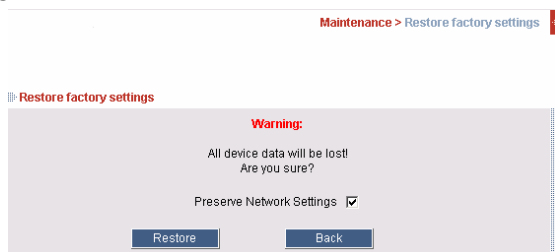

Figure 13 Restore factory settings
1. From the menu select **Restore Factory Settings**. Restore Factory Settings appears see Figure 13.